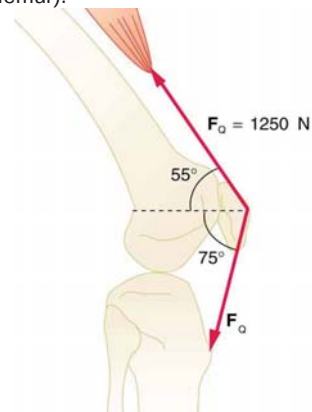

Figure 9.37 The knee joint works like a hinge to bend and straighten the lower leg. It permits a person to sit, stand, and pivot.
28. The upper leg muscle (quadriceps) exerts a force of 1250 N, which is carried by a tendon over the kneecap (the patella) at the angles shown in **Figure 9.37**. Find the direction and magnitude of the force exerted by the kneecap on the upper leg bone (the femur).